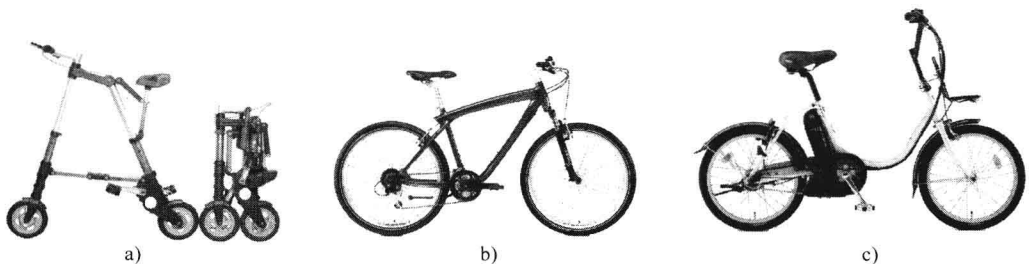

Fig. 1-3 Bikes(自行车)
3.3 Fig. 1-3 shows a folding bike, a bike and an electric bike. Which bike is a mechanism, and which is a machine? Why?
3.3 图 1-3 所示为一辆折叠自行车、一辆普通自行车和一辆电动自行车。请判断哪辆自行车是机构，哪辆是机器，并简述原因。